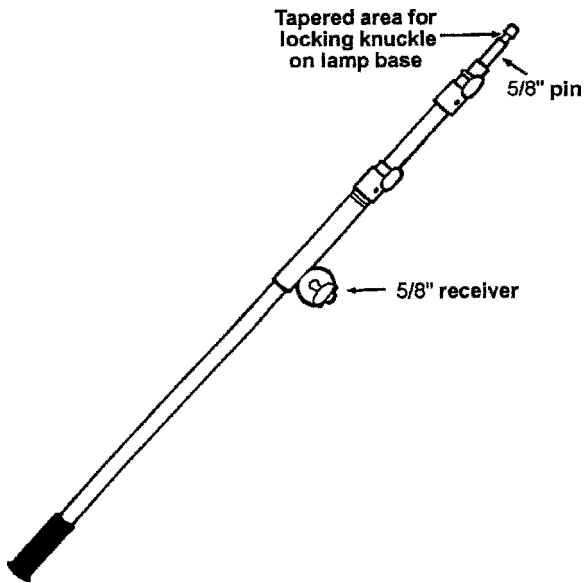

Figure 2.44 Miniboom.
1. As the name implies, the miniboom is a miniature boom arm designed to support lighting fixtures (Figure 2.44).